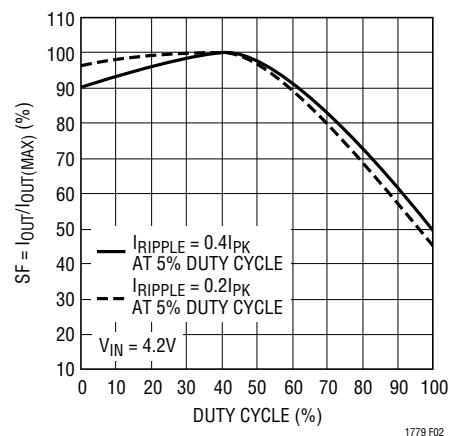
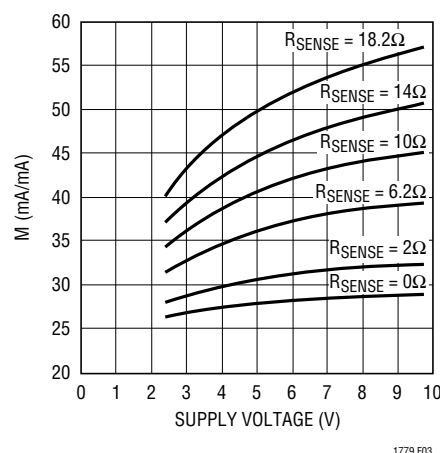

Figure 2. Maximum Output Current vs Duty Cycle
Figure 3.  $M$  vs Supply Voltage
**Note 6:** Peak current sense voltage is reduced dependent upon duty cycle to a percentage of value as given in Figure 2.
when the LTC1779 is operating below 40% duty cycle. However, once the duty cycle exceeds 40%, slope compensation begins and effectively reduces the peak inductor current. The amount of reduction is given by the curves in Figure 2.
The variable  $M$  is the ratio of the total switch current to that portion of the switch current that flows through  $R_{\text{SENSE}}$ .  $M$  is a function of both  $R_{\text{SENSE}}$  and  $R_{\text{OUT}}$  of the internal power switch, which in turn, is a strong function of supply voltage. For values of  $M$  refer to Figure 3. In order to guarantee the desired  $I_{\text{PK}}$  over the full range of supply voltage, the minimum value of  $M$ , corresponding to the minimum supply voltage seen in the application, should be chosen. Note that the selection of  $R_{\text{SENSE}}$ , and hence the resulting  $M$ , is an iterative process. For most applications, a value of  $R_{\text{SENSE}}$  between  $0\Omega$  and  $20\Omega$  will be chosen.
where SF and M are as defined in the previous section, Figures 2 and 3. Typically,  $R_{SENSE}$  is chosen between  $0\Omega$  and  $20\Omega$ . Current limit is at a minimum at minimum input voltage and maximum at maximum input voltage. Both conditions should be considered in a design where current limit is important.
Choose the slope factor, SF, from Figure 2 based on the duty cycle. The ripple current calculated at minimum input voltage and the chosen L should be used in the current limit equation (see Inductor Value Calculation). Figure 3 provides several values of  $R_{SENSE}$  and their corresponding M values at different input voltages. Select the minimum input voltage and calculate the resulting minimum current limit settings.
Although the LTC1779 can function down to approximately 2.0V, the maximum allowable output current is reduced when  $V_{IN}$  decreases below 3V. Figure 3 shows the amount of change as the supply is reduced down to 2V. Also shown in Figure 4 is the effect of  $V_{IN}$  on  $V_{REF}$  as  $V_{IN}$  goes below 2.3V.